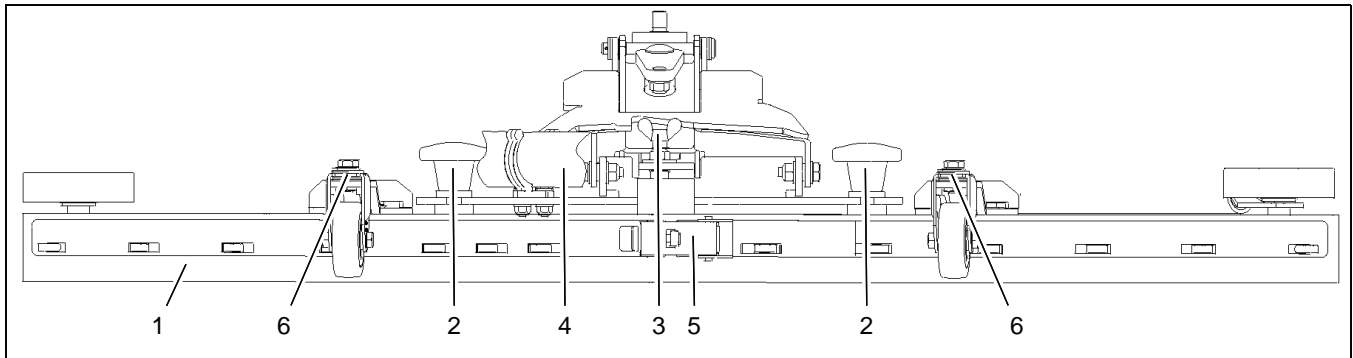

Fig.12
Check the squeegee (Fig. 12/1) daily and clean as necessary.
To clean it lift up the squeegee, pull off the suction hose (Fig. 12/4), loosen the two star-shaped knobs (Fig. 12/2) and remove the squeegee.
Check the inner and outer squeegee blades on the squeegee (Fig. 12/1) weekly for signs of wear. The squeegee blades can be used fourfold by turning them.
3. Unlock the fastening device (Fig. 12/5) and remove the outer squeegee blade. Turn the squeegee blade or install a new one. Change the inner squeegee blade in the same way.
2. Loosen the counternut on the adjusting screw (Fig. 12/3) and adjust the squeegee using the adjusting screw so that the ends of the squeegee blades have contact with the floor.